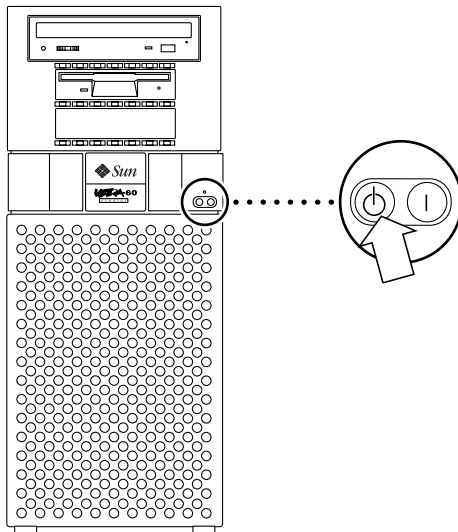

FIGURE 3-1 Ultra 60 System Power-Off (Front Panel)
3. **Set the front panel power switch to the Off position (FIGURE 3-1).**